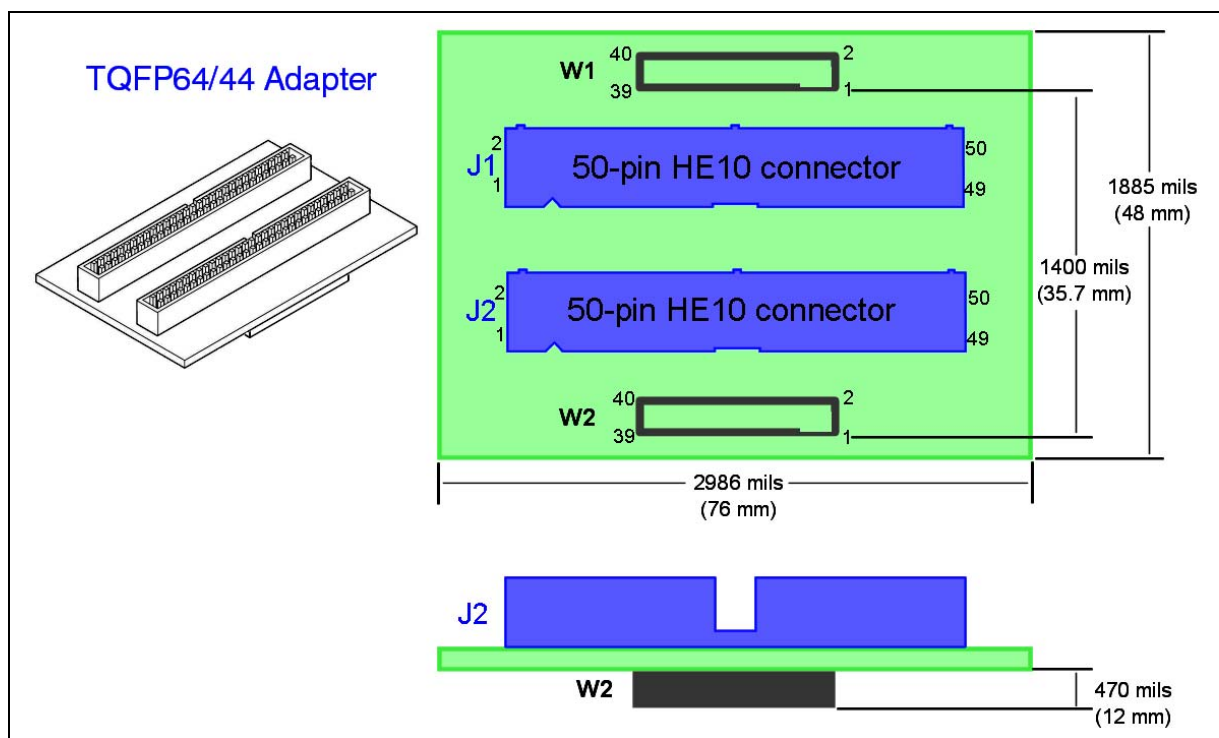

Figure 15: TQFP64/44 adapter (DB612) dimensions
The following schematic (*Figure 15*) will help you physically orient the connectors on your application board to receive the TQFP64/44 adapter. When installing the connectors, be careful to ensure that:
- the distance between the connectors is 1400 mils, measured as shown in *Figure 15*